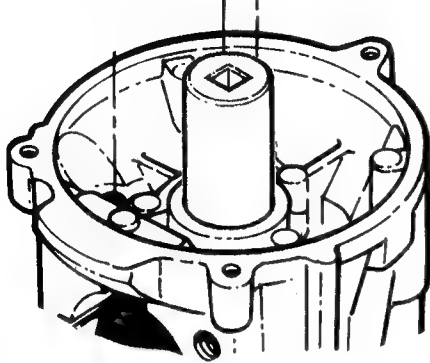

FIGURE 35
2. To press out the needle bearings, use a socket with a slightly smaller O.D. than the I.D. of the crankcase opening. Always press bearings on the outside rim or border. Reinstall bearings using the same method. Lightly coat the bearings with 30-weight oil, making installation easier. Press bearing so that it protrudes into the inside of the crankcase. The surface of the bearing should measure 11mm from the crankcase mating surface. Use same method for other crankcase half. See Figure 35.